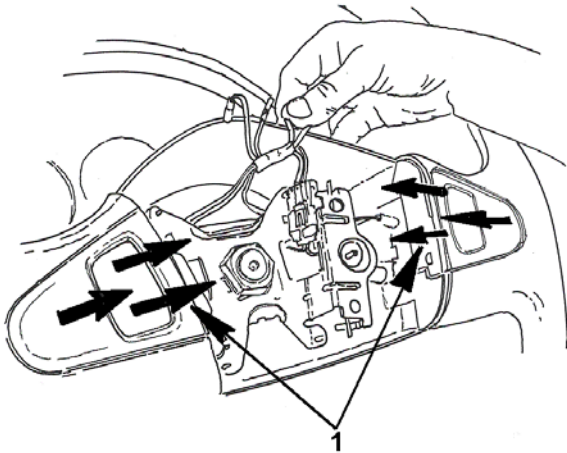

Figure 77 Steering Wheel Switch Modules Removal
1. To remove the switch modules from the steering wheel, slide them toward the center (Figure 77) of the steering wheel assembly.